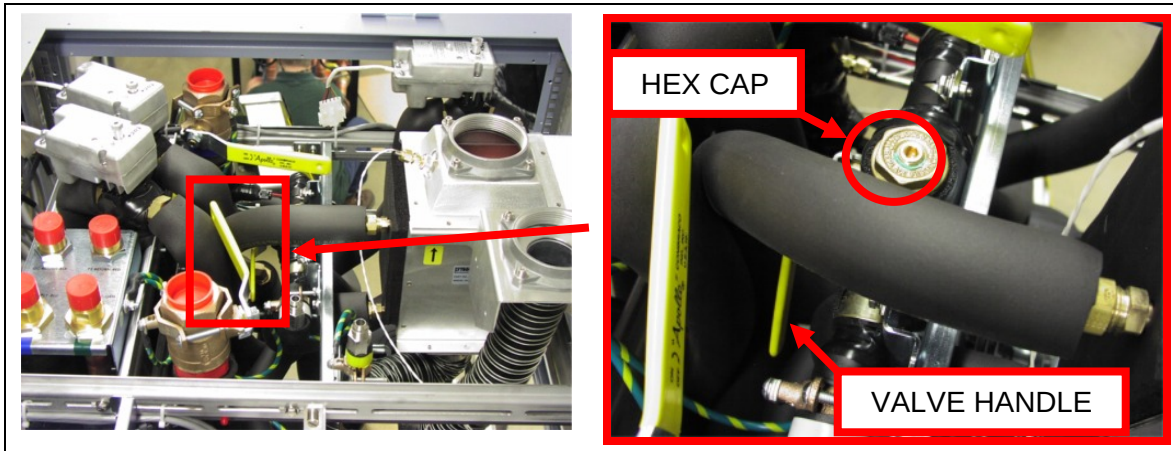

Figure 4 – Cryo Filter Valve Location
- Using the drain hose described in 0 connect to the brass QD fitting on either of the two heat exchangers. Crack open Cryo filter housing shown in Figure 4 (Reference GE coolant draining procedure for further details). This is done by opening the valve handle halfway (the handle should be at a 45° angle) and partially opening the large hex cap on the top of the valve. The facility fluid will be sufficiently drained when fluid stops running from drain hose. After one heat exchanger is drained, move drains hose to the other heat exchanger and allow draining.